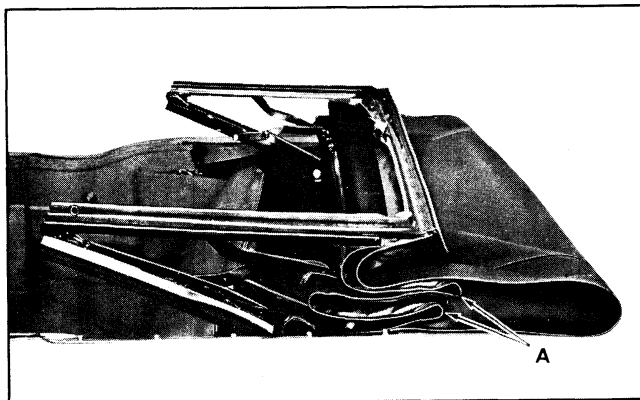

Fig. 22-6 Tuck Padding into Compartment
C. Operate top control switch until top is approximately six (6) inches from full down position. Be sure padding "A" has been pulled rearward from between operating arms of top to insure proper fit of top boot (Fig. 22-6).